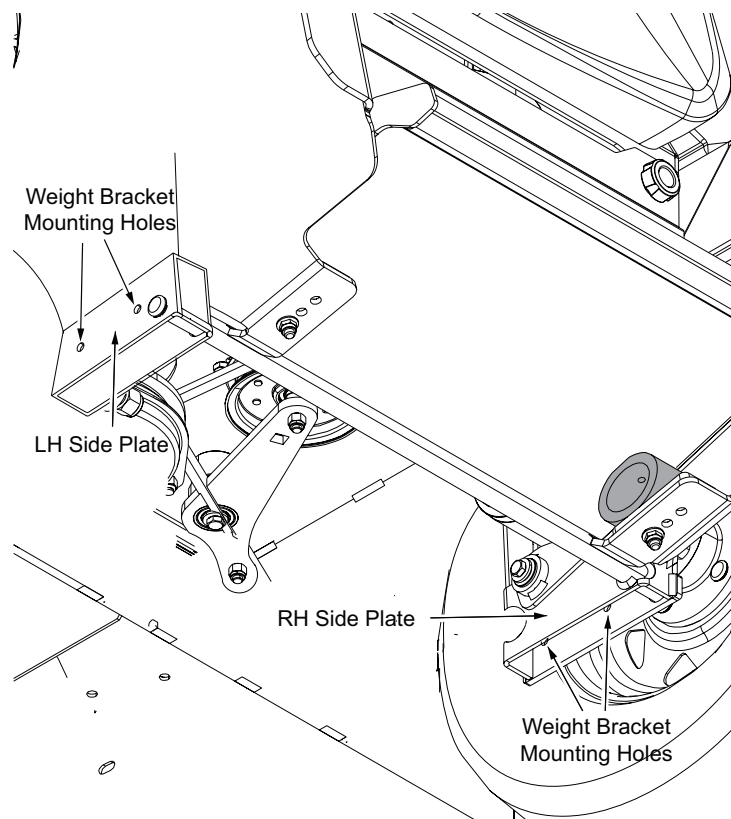

Figure 1.
4. If there are existing holes in the side plates as shown in Figure 1, proceed to step 8 otherwise continue to Step 5.